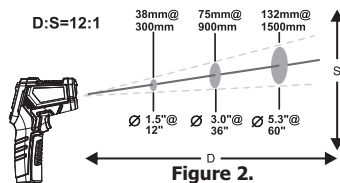

Figure 2.
When taking measurements, it is important to consider the Distance to Spot Size ratio. As the Distance (D) from the target surface increases, the spot size (S) of the area measured by the unit also becomes larger. The Distance to Spot Size ratio of the unit is 12:1 (Figure 2.).